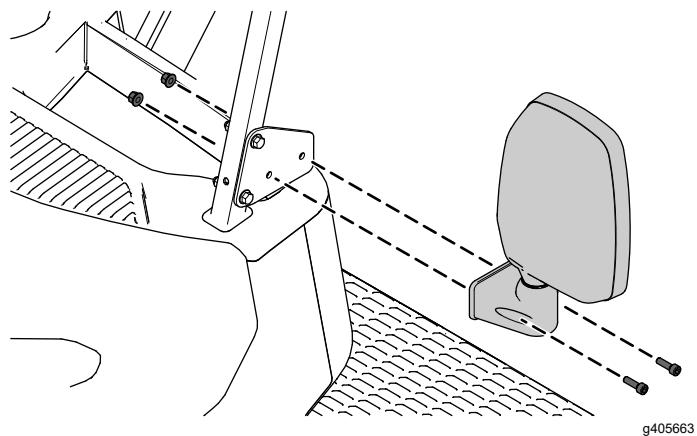
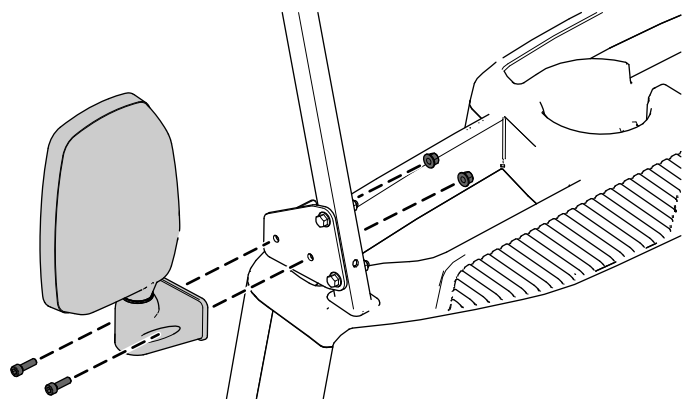

Figure 4
Figure 5
2. Secure the mirror to the mount using 2 hex-socket head bolts and 2 locknuts (6 mm) as shown in Figure 4 or Figure 5.